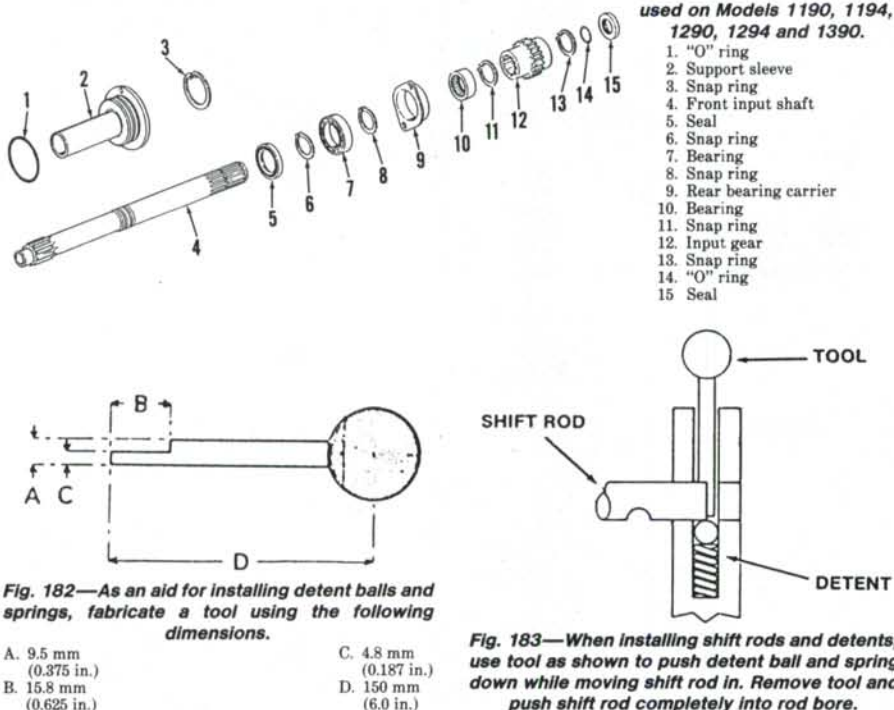

Fig. 182—As an aid for installing detent balls and springs, fabricate a tool using the following dimensions.
236. SHIFT RODS AND DETENT ASSEMBLY. To facilitate installation of detent balls and springs, fabricate an installation tool as shown in Fig. 182.
Assemble snap ring (32), spacer (30) and pinion shaft front bearing cup into bore in front housing. Install front housing assembly and support housing approximately 40 mm (1½ inches) above center housing. Place slow/normal sliding gear (10) on rear input shaft (17) with selector fork groove towards input gear. Remove spacers, then lower front housing until first/reverse shift rod (58) enters hole in front housing. Install detent ball and spring using tool shown in Fig. 182 and 183 while joining front housing and center housing. Install new locknuts on housing studs and tighten to 95 N·m (70 ft.-lbs.) torque.
244. SHIFT RODS AND DETENTS. Install high/low shift rod (73—Fig. 184) and spacer (76). Install detent spring and ball using tool shown in Fig. 182 and 183. Install roll pin in shift fork.